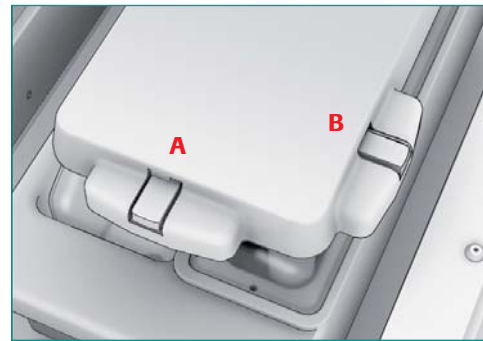

Figure 3–1: Sipper manifold buttons
Sipper manifold buttons: The sipper manifold has two buttons that control two different motions (Figure 3–1). The first button (A) is used to raise and lower the sipper manifold. The second button (B) is used to rotate the RAISED sipper manifold so the Sipper Tubes can be replaced, as described below. To rotate the sipper manifold, make sure to first raise it COMPLETELY using Button A (on the *short, front* side of the sipper manifold); then press button B (on the *longer, right* side of the manifold).